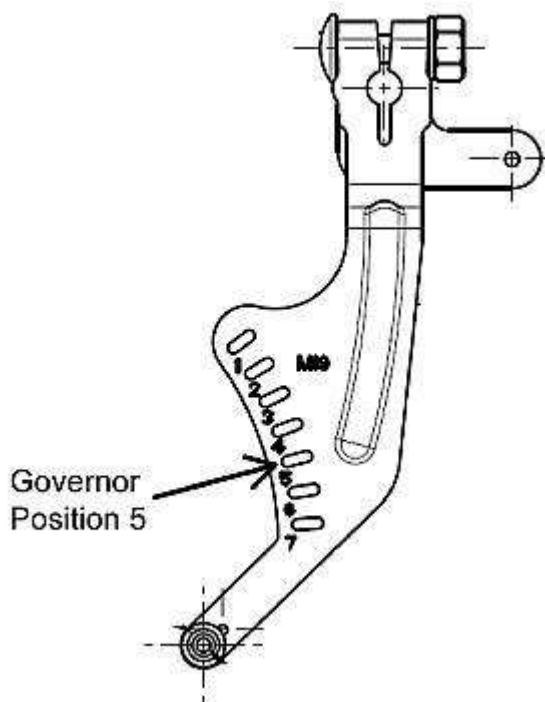

Figure B- 1: Governor Spring Position
**The governor spring shall be engaged with, and only with, hole five (5) per Figure B-1.**